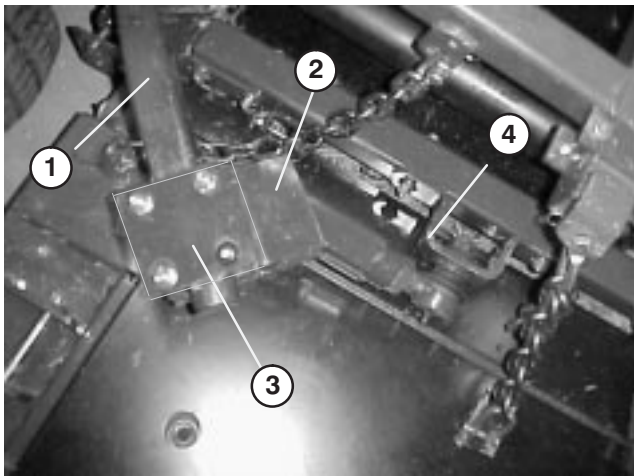

Figure 6
3. Remove (2) flange head capscrews and flange nuts securing right hand ball joint mount to castor arm. Remove ball joint mount from castor arm.
4. Install ball joint to right hand ball joint mount with a castle nut and cotter pin (Fig. 6).
5. Loosely mount push arm adapter to bottom of right push arm with a push arm bracket and (4) capscrews, flat washers and flange head locknuts. Push arm bracket to be positioned approximately 1" from end of right push arm.